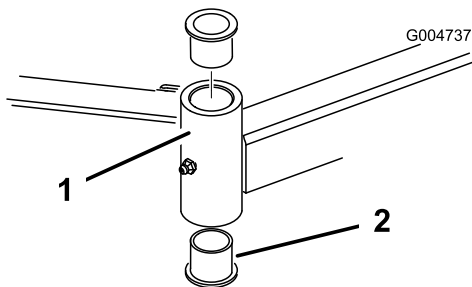

Figure 108
4. Insert a pin punch into the top or bottom of the mounting tube and drive the bushing out of the tube (Figure 108).